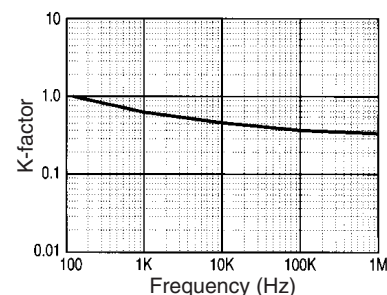

Fig. 4 Correction coefficient (K)
Since the ESR(D) value varies with the ripple frequency, however, the following correction must be made in accordance with the operating frequency (see Table 2 and Fig. 4).
K: Coefficient for the operating frequency (Table 2 and Fig. 4).